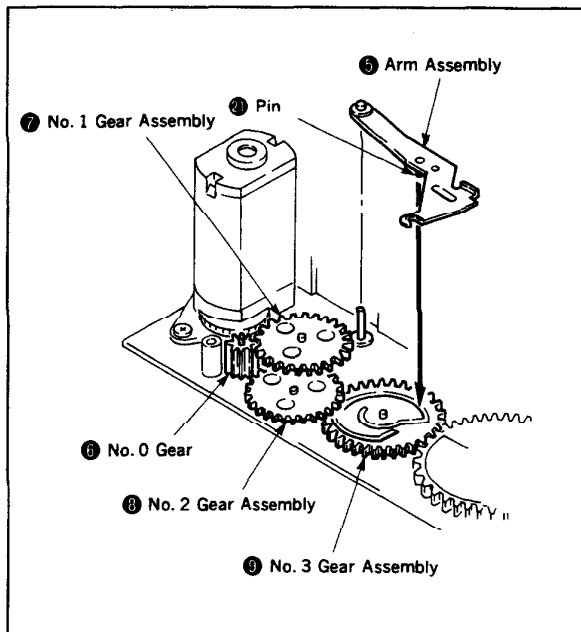

Fig. 34
- 7) Mount the No. 2 gear assembly ⑨, No. 1 gear assembly ⑧ and No. 0 gear ⑦ in that order. Mount the arm assembly ⑥ to the shaft and put the pin ⑦ in the groove of the No. 3 gear assembly ⑩, (Fig. 34)